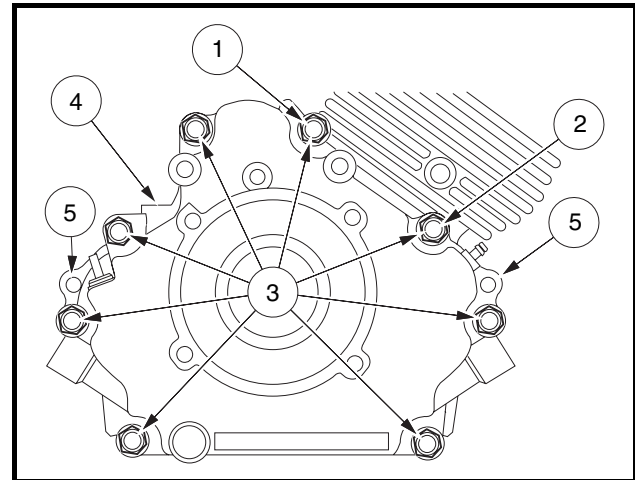

Figure 15-3 Crankcase Cover
2. Remove nuts and clamps at two-ended bolts (1 and 2) **(Figure 15-3, Page 15-4).**
- Remove eight bolts (3) and remove the crankcase cover (4). **See following NOTE.**
NOTE: If the crankcase cover sticks, tap lightly with a plastic mallet on alternate sides near the dowel pins (5) (Figure 15-3, Page 15-4).